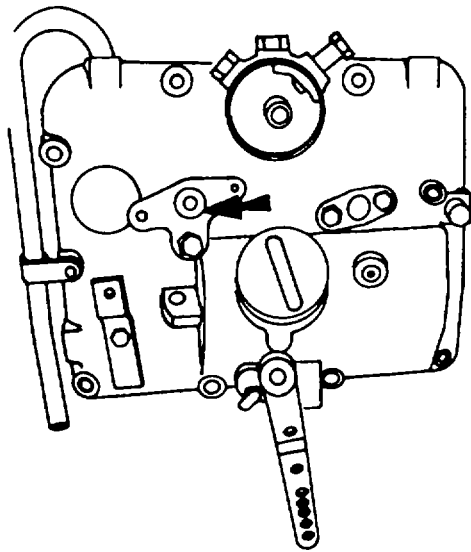

Figure 5-87. Copper Washer and Barrel
5. Remove the barrel by pushing from other side (figure 5-87).